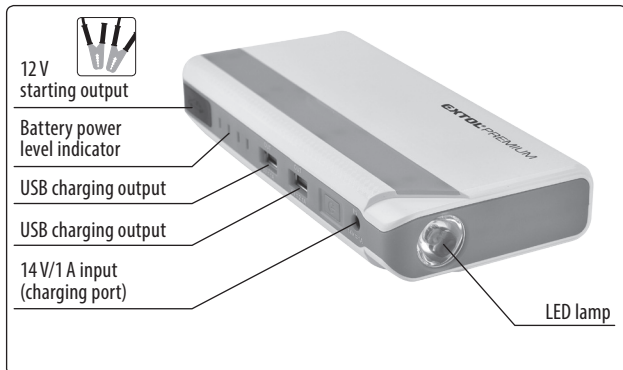
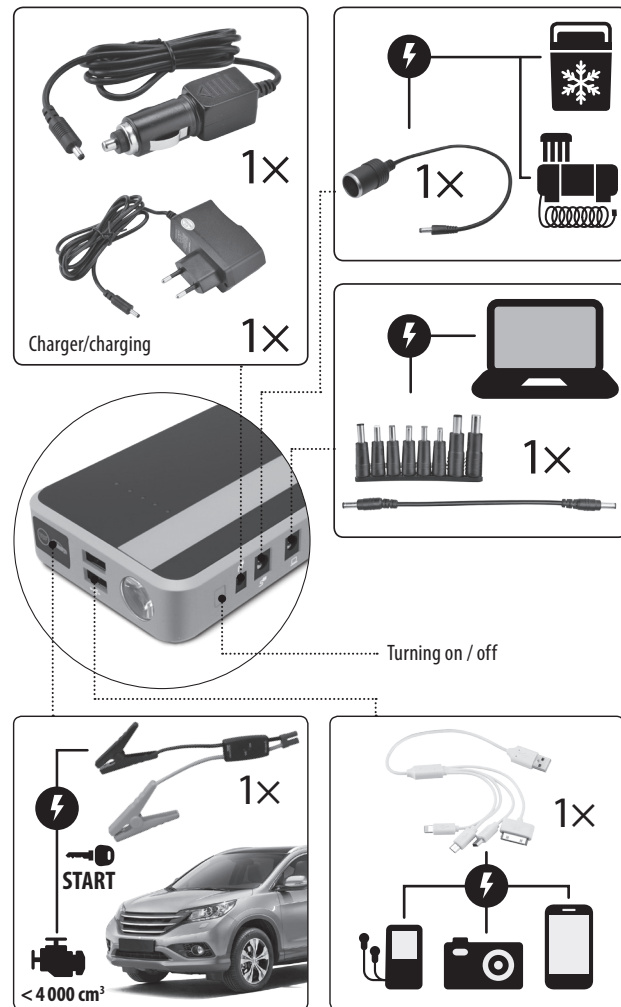

Fig. 7
Fig. 9
*) Use of the ports and outputs is described in chapter 2 and in fig. 7 and 8 depending on the model.
The use of ports on model Extol® Premium 8897321 is shown in figure 9 (model Extol® Premium 8897320 has a 12 V/10 A and a 19 V/3.5 A output and the position of the remaining outputs and parts is different as shown in fig. 7).
- 2) Insert the jump start cable connector into the powerbank socket (see 12 V jump start output fig. 7 or 8 depending on model).
- Insert the appropriate cable plug into the powerbank socket based on the charged/ powered appliance as shown in fig.7 and fig.8 and table 2 based on the model of the device (for model Extol® Premium 8897321 also as shown in fig.9) and then press the ON/OFF button on the powerbank. 12 V output on model Extol® Premium 8897321 for charging 12 V appliances is under voltage without the ON/OFF button on the powerbank being pressed.